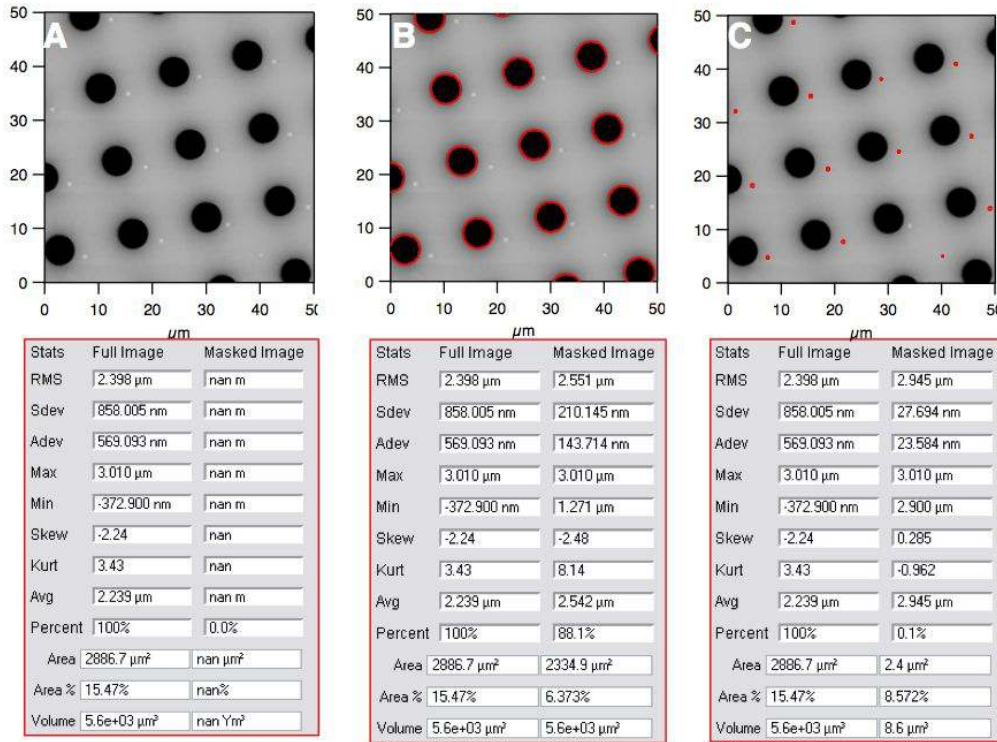

Figure 1.15.: Roughness panel statistics: A) Unmasked image; B) Iterative mask results; C) Manually adjusted to mask smaller features at top of pattern.
An example of image roughness measurements relative to surface features contained by the mask is shown in Figure 1.15 on page 38. You can download this image from here: <http://www.AsylumResearch.com/Files/Data/RoughnessExample.zip>. Panel (A) shows an image of an elastomeric mold that contains no image mask. Notice the Masked Image column of the Roughness tab shows Nan, "Not a Number," because there is no mask. Panel B shows the result of an iterative mask with 'Inverse' checkbox NOT activated. The values in the Masked Image column represent the areas outside the mask, which include the lighter areas of the image. Finally, in Panel